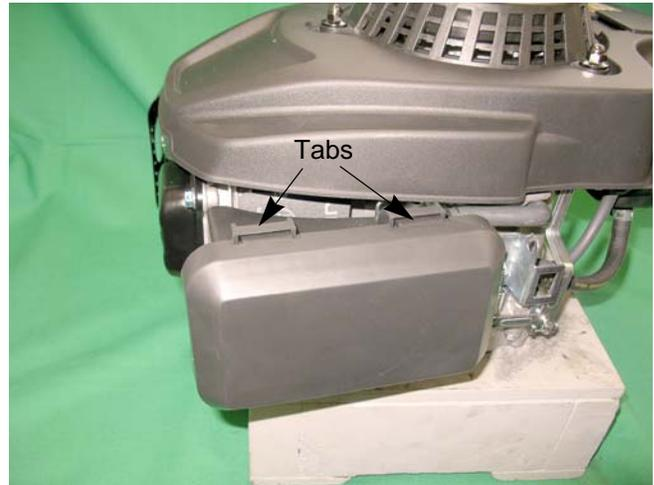

Figure 3.3
1. Press down on both tabs See Figure 3.3..